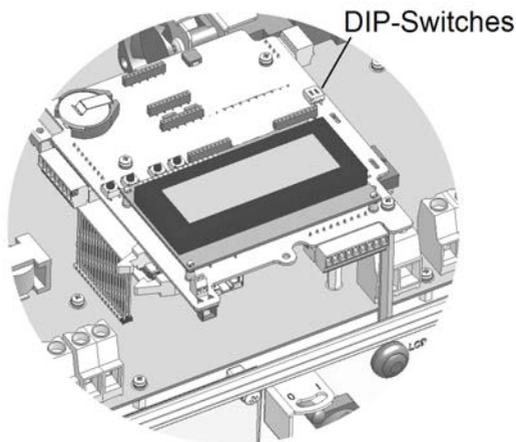

Figure 27: RS485 termination switch on the inverter communication board
- Inverter communication board (Figure 27):